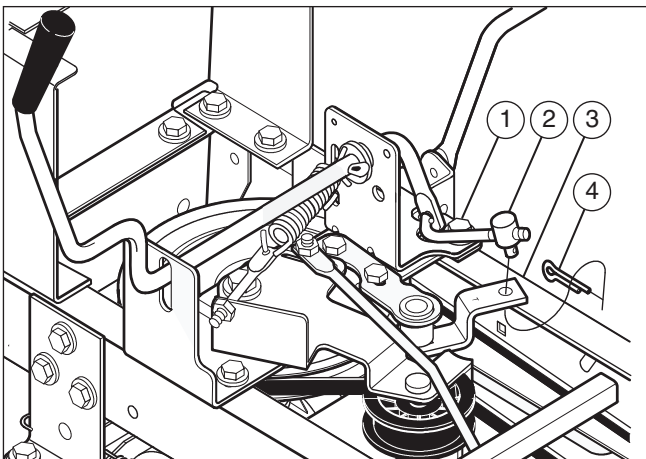

Figure 26
2. Disconnect the adjuster nut (2) from the shifter bracket (3) (see **Figure 26**).
7. Remove the adjuster nut (2) from the shifter bracket (3). Pull the motion drive belt over the shifter bracket (3) (see **Figure 26**).
13. Check the routing of the motion drive belt (1) (see **Figure 26**). Make sure the motion drive belt is installed correctly on the idler pulley (2). Make sure the steering shaft assembly (3) is inside the motion drive belt.